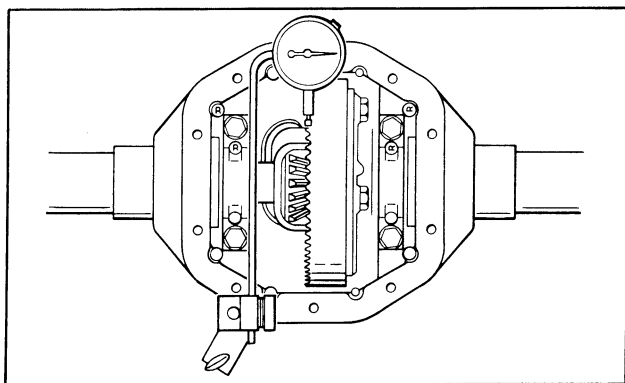

Figure 20 – Ring and Pinion Backlash Check
- f. Check backlash with dial indicator, Figure 20. Place contact point of dial indicator on a ring gear tooth. Hold pinion shaft and move ring gear back and forth without moving the pinion gear or shaft. Repeat backlash check at four equally spaced points around ring gear. Backlash must be held between .004 in. (.1 mm) and .008 in. (.2 mm) and must not vary more than .002 in. (.05 mm) between positions checked. Readings in excess of specifications indicate worn ring and/or pinion gear or improper backlash adjustment.